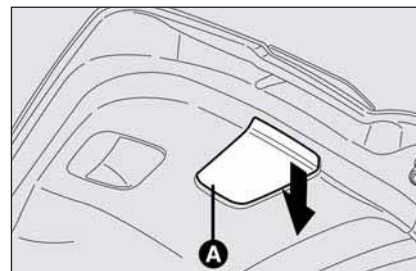
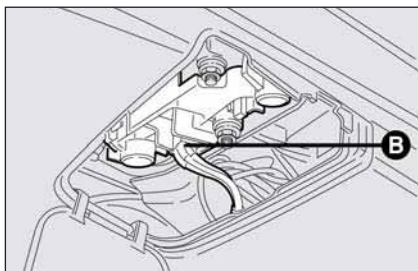

fig. 29
fig. 30
- ☐ push down cover **A**-fig. 29 and remove electric connector **B**-fig. 30;